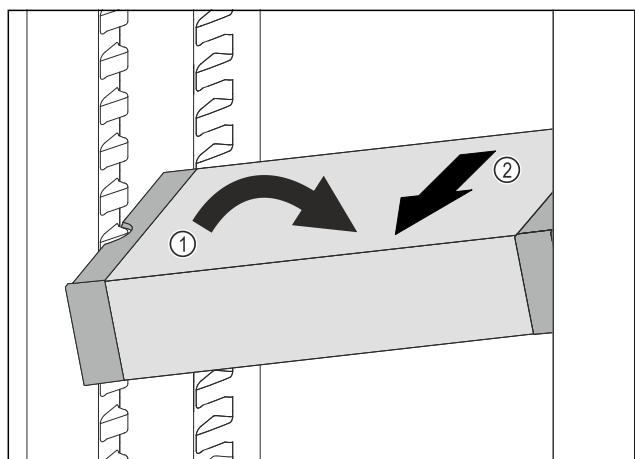

Fig. 111
- ▶ Set VarioSafe in refrigerator compartment at an angle. *Fig. 111 (1)*
- ▶ Take VarioSafe out to the front. *Fig. 111 (2)*